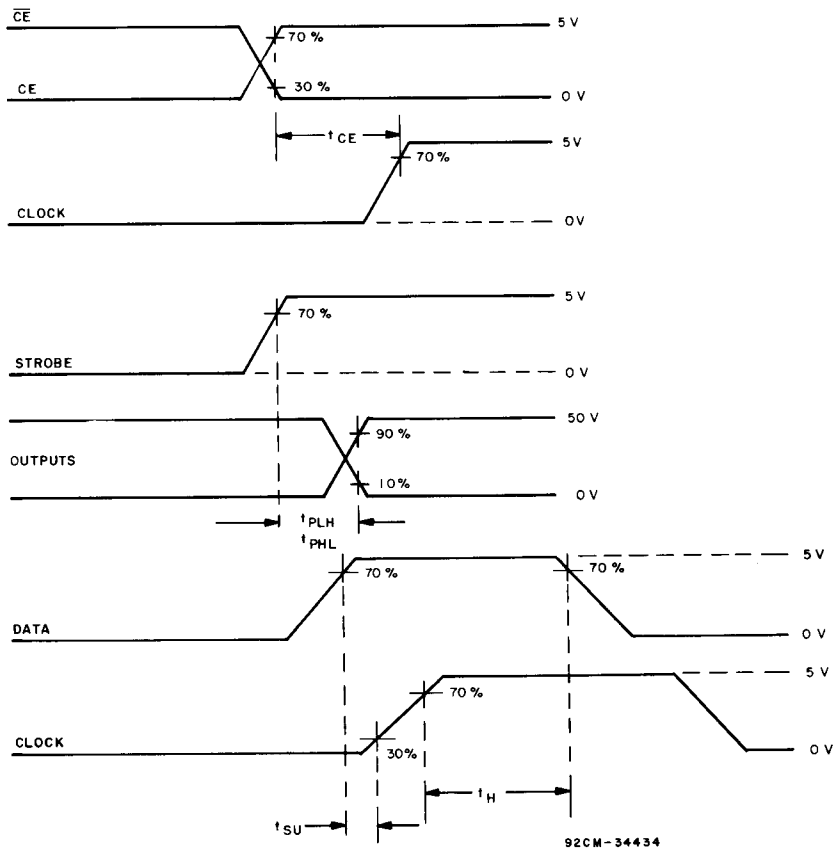

Fig. 6 - Segment-latch driver (CA3208E) timing waveforms.
**Segment-Latch Driver, See Fig. 6**